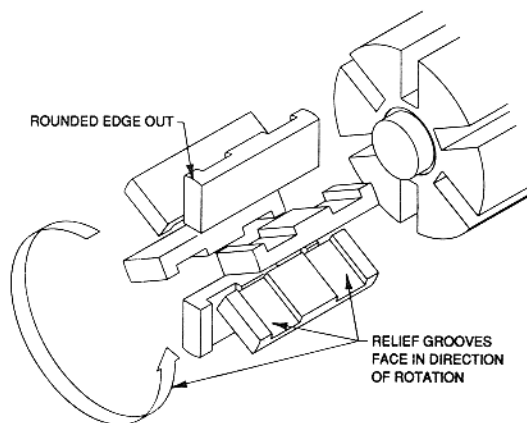

Figure 2 - Vane Installation*
3. Remove and replace the vane, making sure the rounded edge is outward to contact the liner, and the relief grooves are facing in the direction of rotation (see Figure 2).
- a. Insert vanes (14) into the bottom three rotor slots with the rounded edge facing outward, and the relief grooves facing in the direction of rotor rotation. (Refer back to Figure 2.)